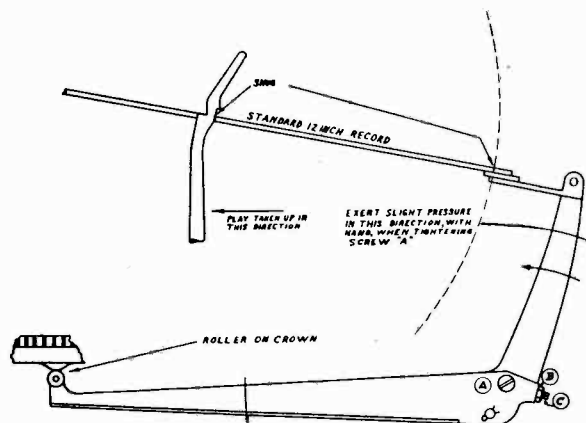

FIG. 4
1. Place 12" record on spindle and 12" shelf as shown in Figure 4. Start changer in cycle and then stop the change cycle when the crown on the cam gear touches the roller on the shelf lever as shown in Figure 4.